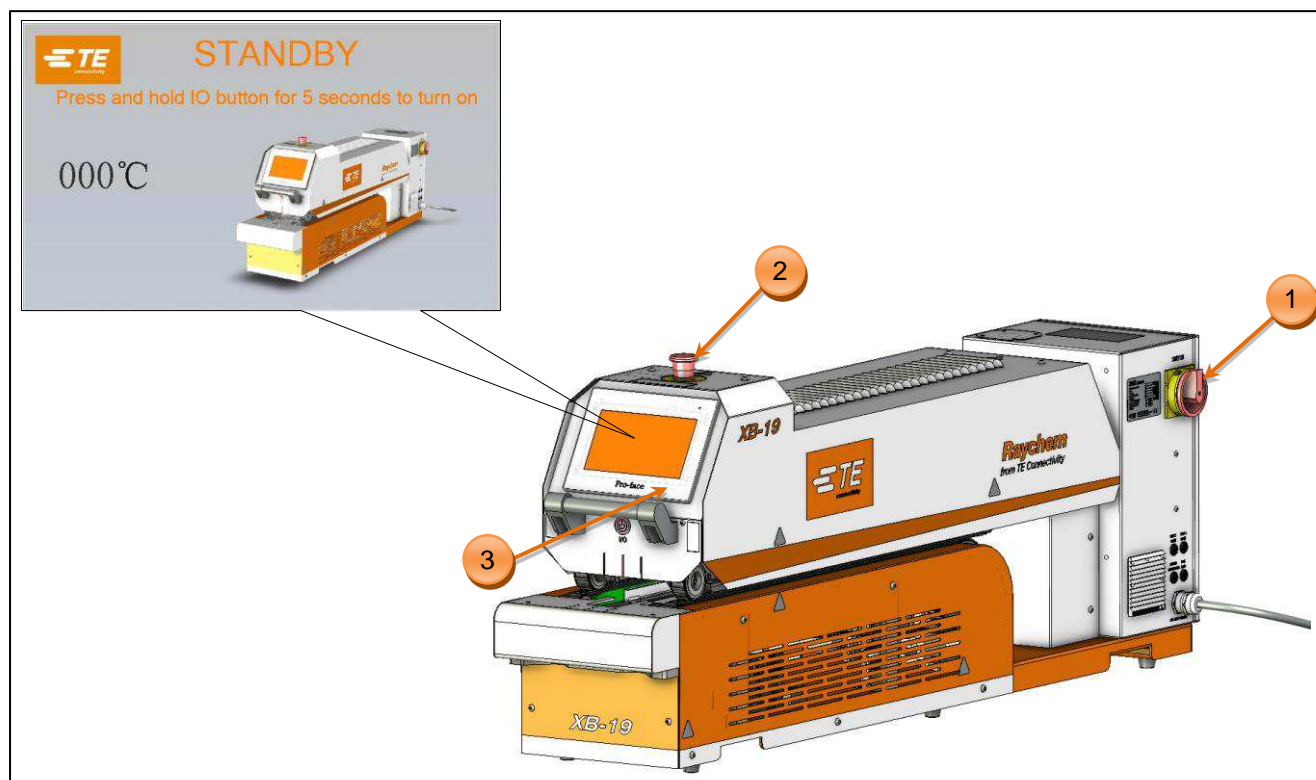

Figure 6: Power ON
- Touch panel will entry standby mode. See the top left picture in Figure 6.